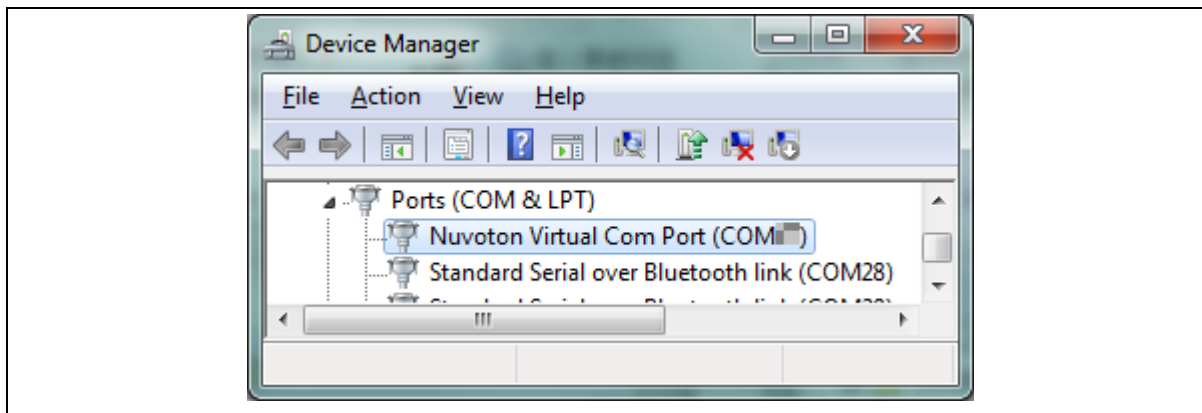

Figure 4-7 Device Manger
2. Find the “Nuvoton Virtual COM Port” on the Device Manger as Figure 4-7.